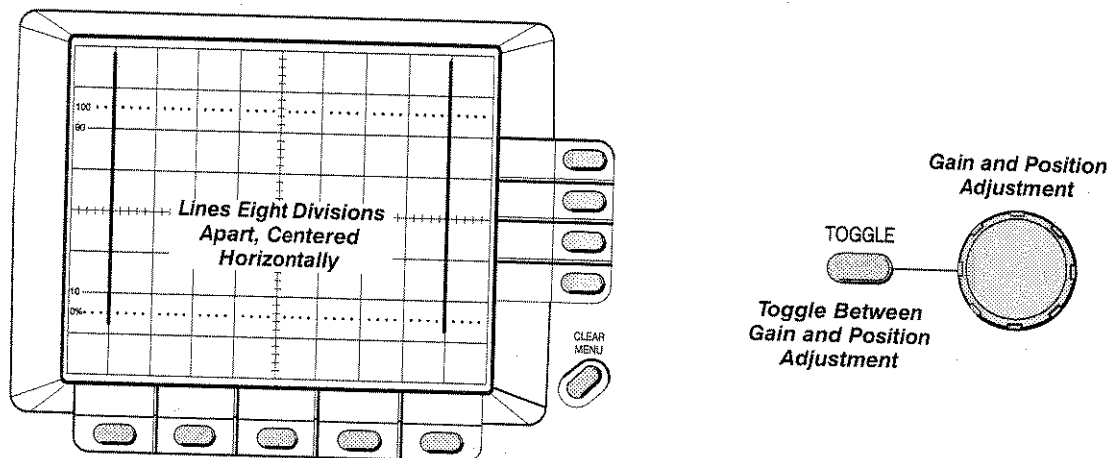

Figure 7-6: Horizontal Adjustments (Three)
14. Use a combination of the **TOGGLE** button and the General Purpose Knob to position the vertical lines 8 divisions apart, centered horizontally (see Figure 7-6).